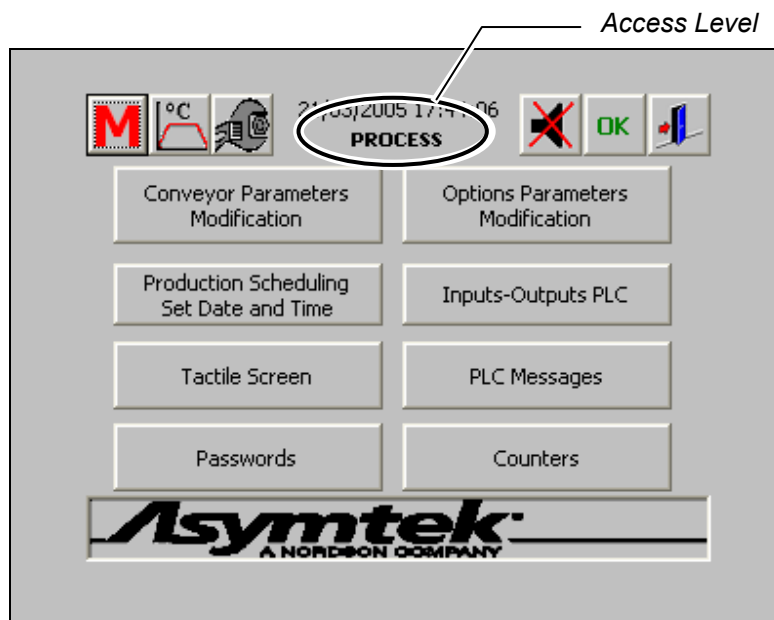

Figure 6-20 Main Menu - Access Level
4. Click on the **Return Key**. Check that the access level is correct on the Main Menu (Figure 6-20).